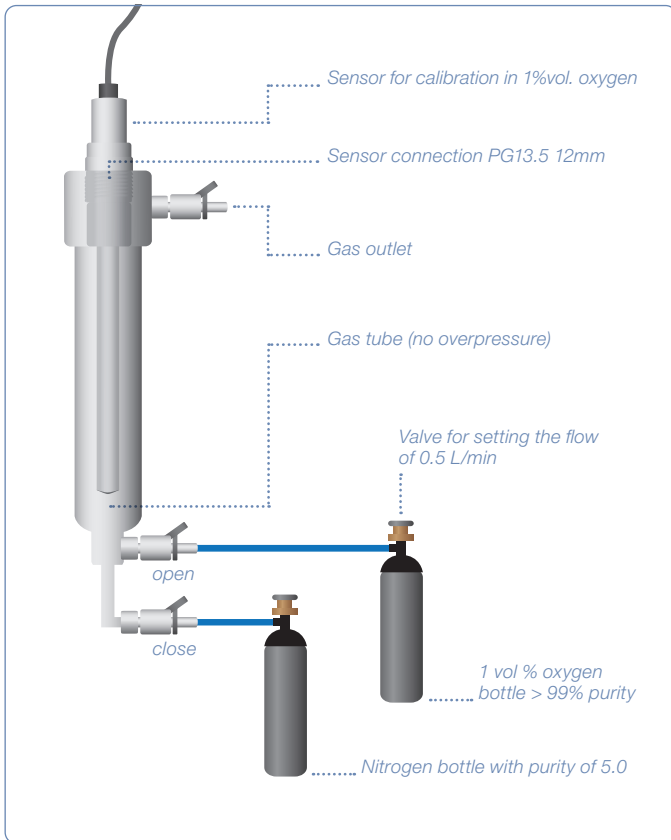

Figure 15: Calibration setup in oxygen point
- 1) Install the sensor into the calibration station and connected the 1%-vol calibration gas (Figure 15).